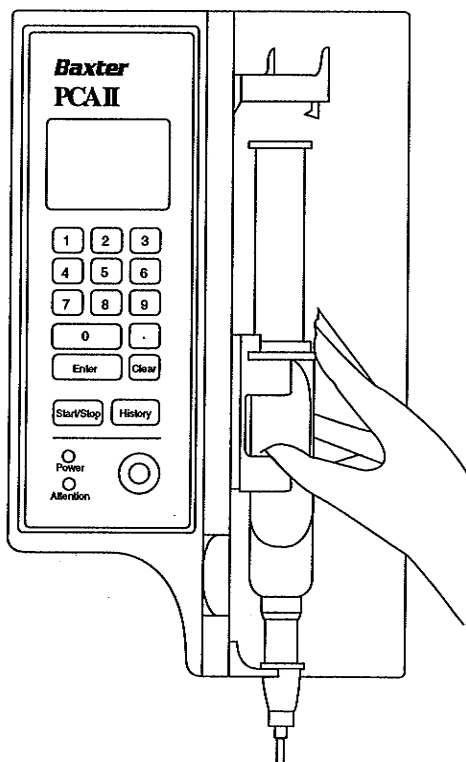

Figure 2-4 • Placing the syringe into the holder
- Push the syringe into the holder. Make sure the syringe body is parallel to the pump, as shown in Figure 2-4.